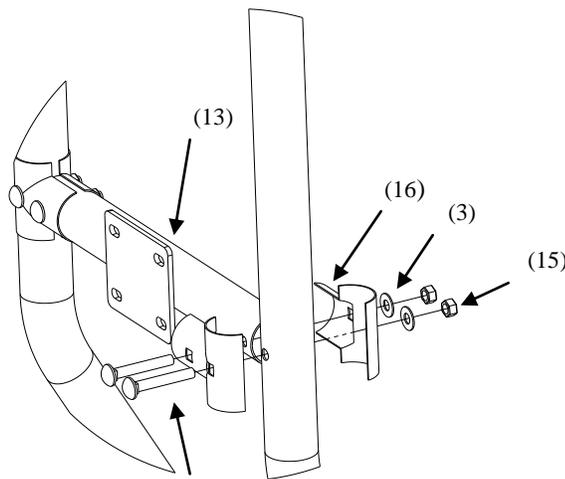

Figure 2
2. Assemble the cross-brace (13) to the posts (9) with the split tees (17) as shown. Do not fully tighten any of the hardware until all parts are assembled. Make sure the heads of the carriage bolts are on the same side as the backboard, otherwise interference will occur. A 9/16" wrench is needed for this step. **Fig. 2**